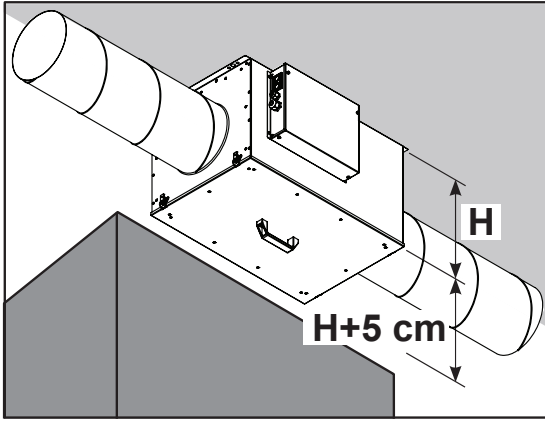

Fig. 10-5
- The installation should be easily accessible for maintenance and cleaning and should be easy to dismantle. Leave a space of at least the height of the unit + 5 cm from other units, shelves or cabinets to facilitate maintenance work such as changing the filter (see Fig. 10-5).